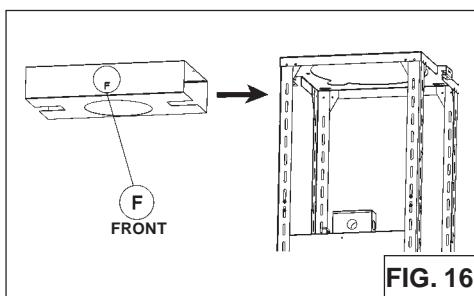

FIG. 16
3. Insert the plenum in the upper support frame. Make sure that the letter F is positioned at the front of the support frame (Fig.16).